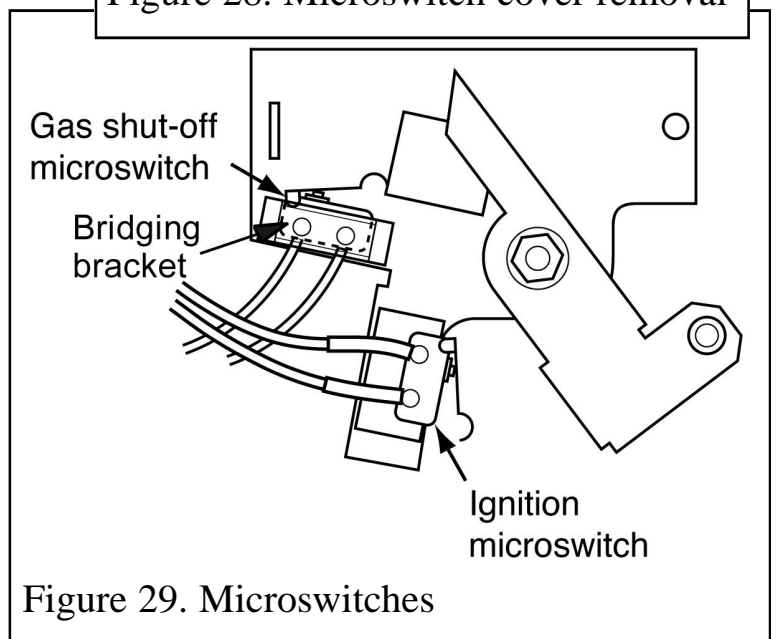

Figure 29. Microswitches
4. Detach the bridging bracket, microswitch assembly by removing two screws (See figure 29).